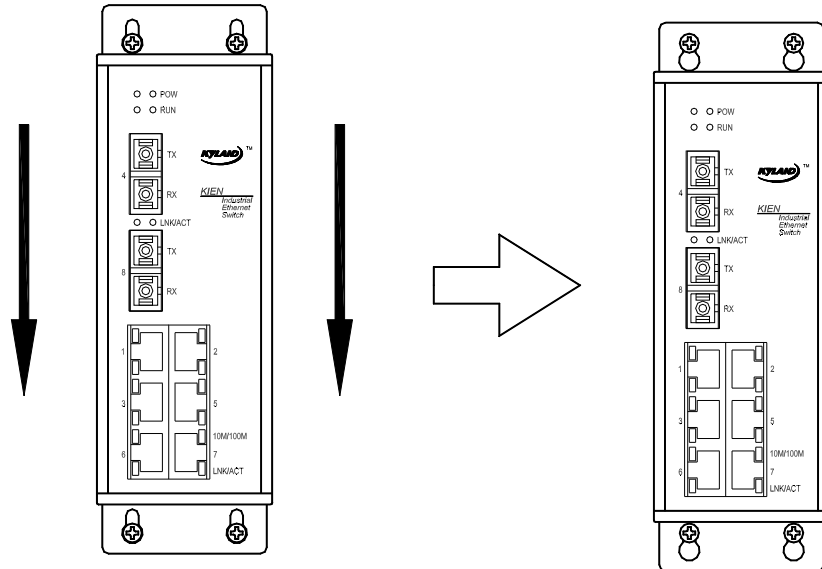

Figure 4-5 Schematic diagram for wall-mounting process
- 4 . After fastening the screws on the wall, mount KIEN6000 in the selected position. Pass the four screws through the four  $\Phi 65$  holes on the wall-mounting plate and slip KIEN6000 downwards, as shown in Figure 4-5. Fasten the four screws. KIEN6000 has now been fastened on the wall or inner wall of cabinet.